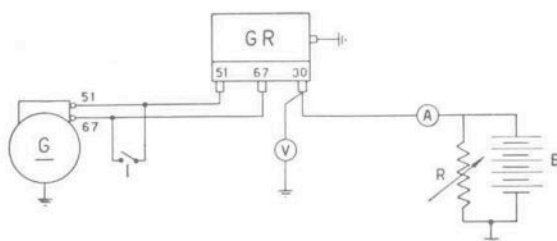

FIG 11:9 Wiring diagram of test equipment for setting voltage and current regulator units
**Key to Fig 11:9** GR Regulator G Generator V 20-volt voltmeter (.5% accuracy) A Ammeter (20 amp for voltage regulator and 40 amp for current regulator) R Rheostat (25 amp, 3 ohm) B 50 amp/hr battery, fully charged I Switch